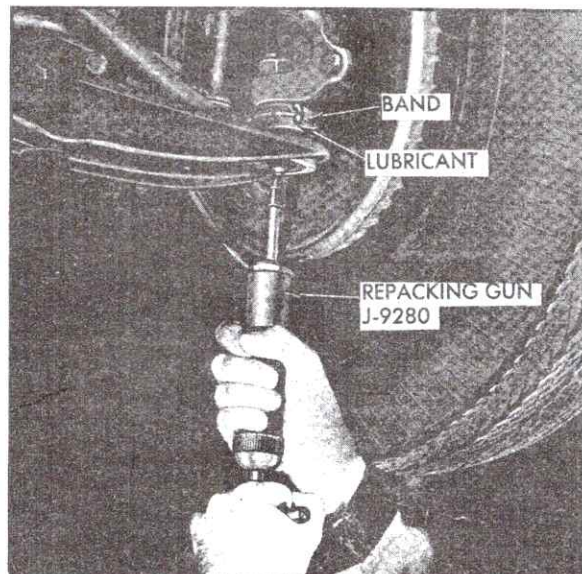

Fig. 3-14 Repacking Front Lower Spherical Joint Seal
3. Using Repacking Gun, J-9280, and fitting, J-9280-5, apply lubricant until grease is forced out between upper end of seal and knuckle, Fig. 3-14. Any water trapped in the joint should be forced out by the fresh lubricant.